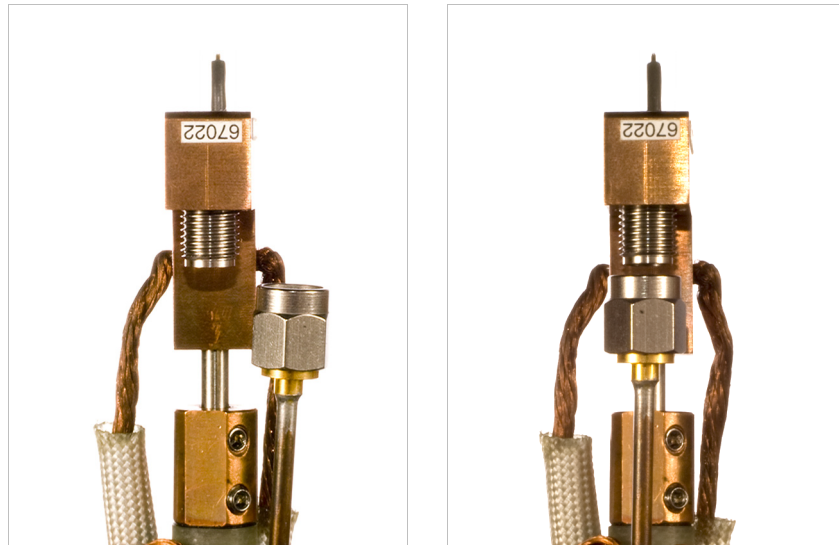

FIGURE 3-40 Left: Misaligned probe; Right: A properly aligned probe
5. As you slide the microwave dowel onto the probe arm, note the relative height of the microwave connector socket on the probe and the microwave connector plug on the semirigid cable. If the relative heights of the two connectors do not match, the semirigid cable can be gently bent using the thumb and forefinger to align the connector plug with the height of the connector socket (FIGURE 3-40).